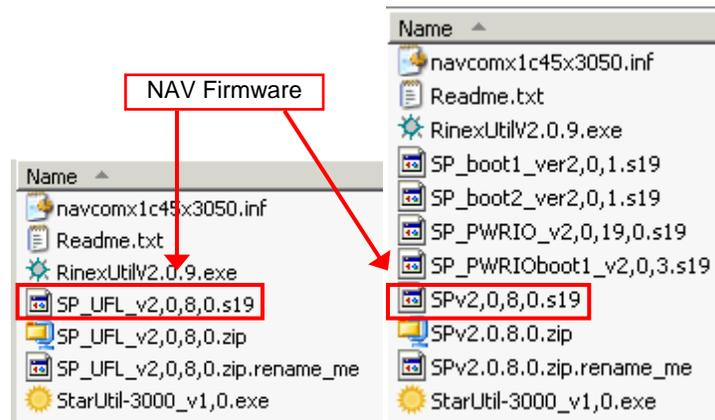

Figure 58: Firmware Folder Contents
3. Browse to the NavCom\Firmware folder on the PC (see Figure 58).
4. The Firmware folder is copied from the SF-3040 Product Configuration USB Flash Drive or the SF-3050 Product Configuration USB Flash Drive. It contains the most current firmware (see example files in Figure 58). The firmware file extension is \*.s19.